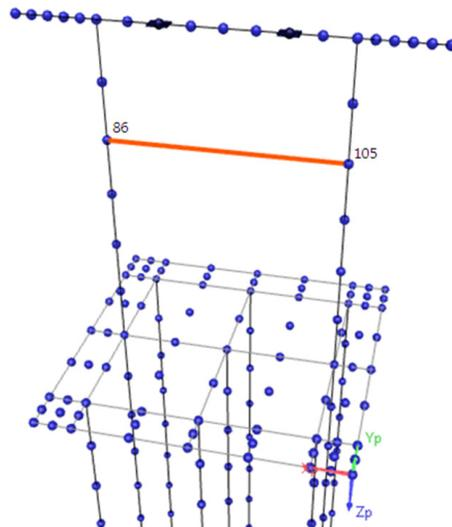
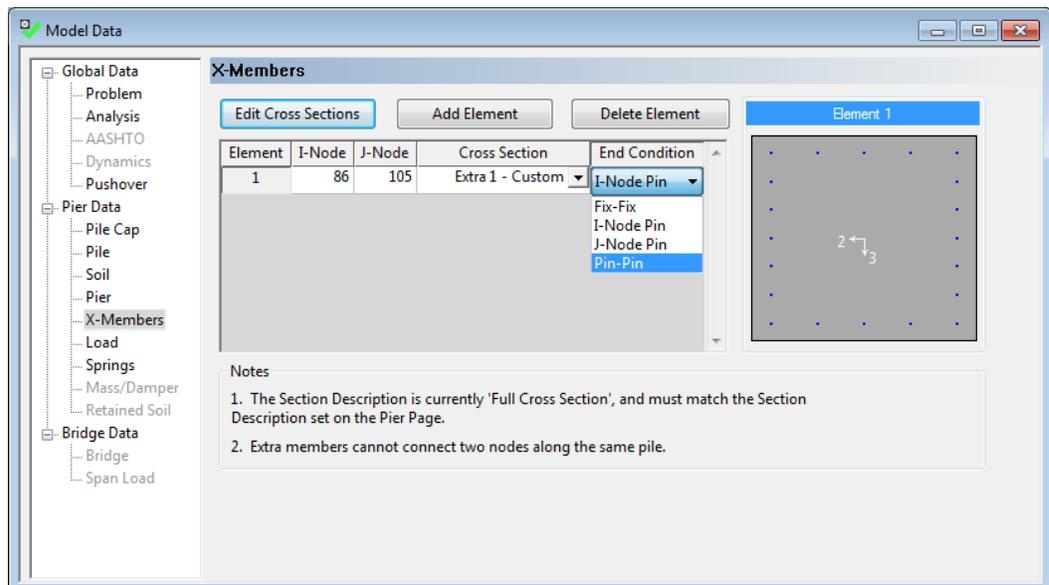

Figure 22 General Pier model with Extra Member (highlighted).
Figure 23 Selection of “End Condition” on the “Extra Members” page.
Element end conditions for extra members have been enhanced in FB-MultiPier v5.0 such that end-fixity can be specified by the engineer. This enhancement allows for either end or both ends of a given extra member to be “pinned” (no moment transfer) or “fixed”. For example, consider the extra member element modeled as a strut between column nodes 86 and 105 (Figure 22). From the “Extra Members” page (Figure 23) in the FB-MultiPier user interface (UI), an “End Condition” drop-down menu allows for the assignment of any one of several end-fixity conditions.